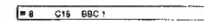

Fig. 15
- 4 Using  $\Delta$  + or  $\nabla$  - select the programme position which you want to move to another and press OK. The colour of the selected position changes. (See Fig. 15)